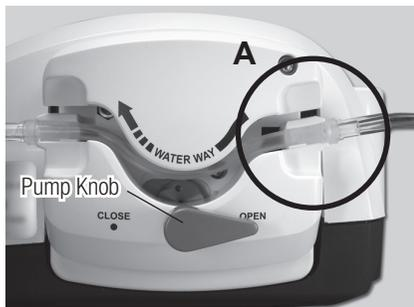

Fig.7
- 2) Insert the Irrigation Tube (on the bottle side) into the Irrigation Pump, hitching it onto A in Fig. 7.